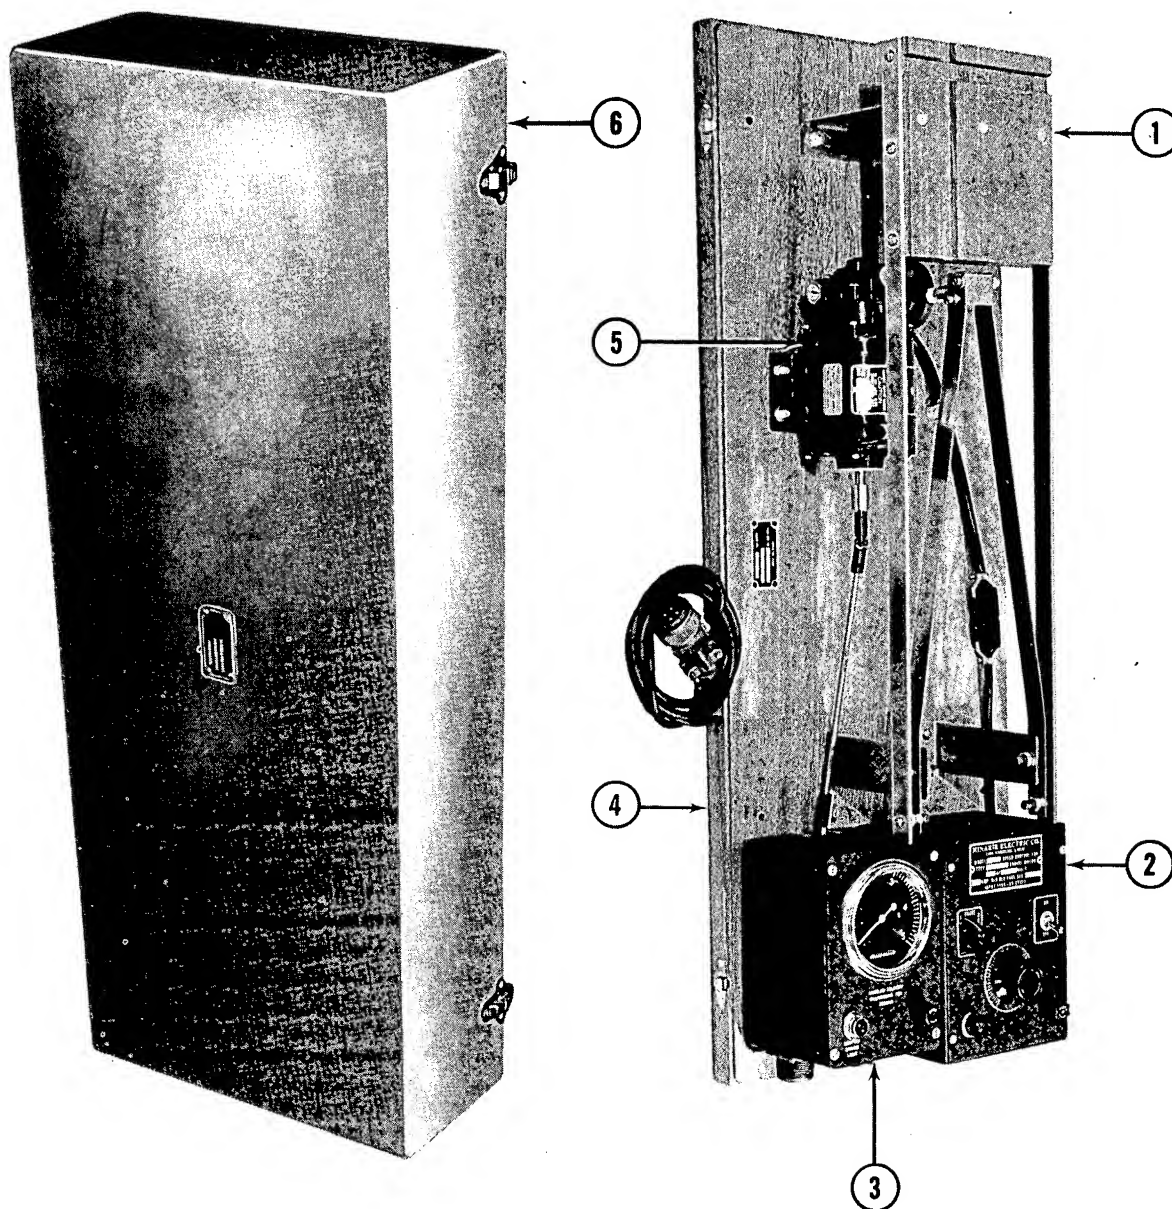

Figure 1-1. Vibration Detector Test Set
The Vibration Detector Test Set, shown in figure 1-1, is an electro-mechanical device used to check the tripping threshold sensitivity of a Vibration Detector. The test set produces controlled angular velocities within a horizontal plane. The position in which the Vibration Detector is placed upon the test set determines whether roll, pitch, or yaw sensitivity will be checked. When the angular velocity produced by the test set exceeds the Vibration Detector's tripping threshold, an indicator light will start to flash. When the light flashes rhythmically, sensitivity can be determined by observing the milliradians per second of angular velocity indicated by the tachometer on the test set.
c. Drive Motor and Gear Box. (See figure 1-1.) The drive motor is a shunt-wound type. The gear box is mounted on one end of the motor and is used to reduce the output speed of the motor to the vibration detector mounting platform actuating cam. The actuating cam is mounted on the output shaft of the gear box, and is used to transmit the angular velocity to the mounting platform.
d. Vibration Detector Mounting Platform. (See figure 1-1.) The mounting platform is fabricated from a single piece of mahogany in which two intersecting grooves have been cut. A flexible steel plate is used for support. Two mounting platform lever arms, two transverse lever arms, two pivot connectors, two fulcrum pivot mountings, a cam follower mounting block, and a cam follower are incorporated to provide the necessary linkage to actuate the mounting platform.
e. Test Set Base and Cover. (See figure 1-1.) The test set base is a single piece of mahogany, which is used as a mount for all test set components. The cover is used to enclose the test set and is secured in position on the base by four latches.